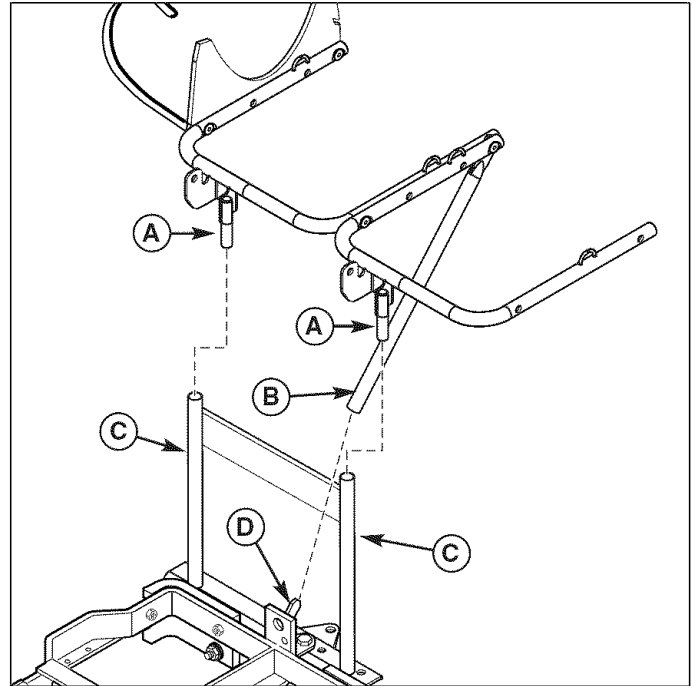

Figure 5. Install Bag Support
1. Set bag support tube (B, Figure 5) onto hitch assembly post (D).
2. Insert bag support posts (A) into hitch assembly tubes (C). Make sure that support posts insert completely into tubes.